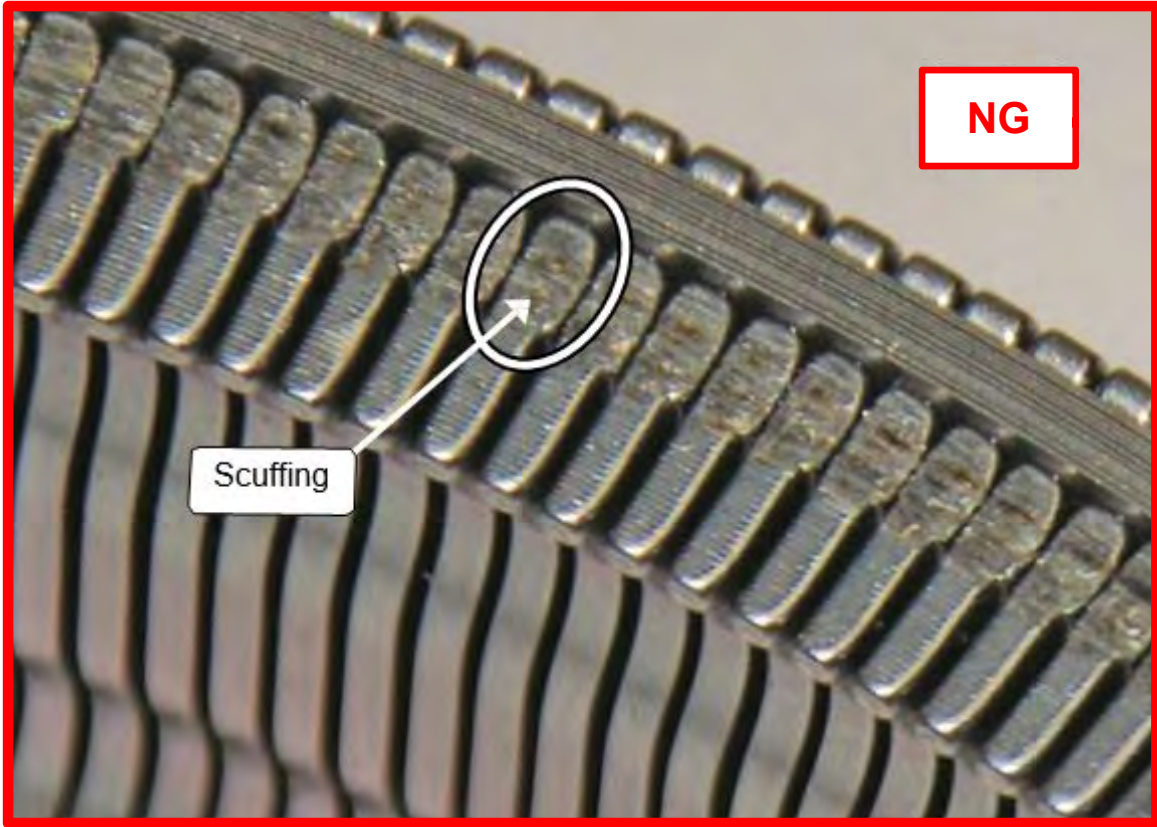

Figure 44
- If evidence of belt slip is identified as shown in Figure 44 through Figure 48 on pages 28-29, skip to step 26 on page 33.
- If the belt does not move when rotating the driver side (LH) front wheel, return to step 18b on page 20.
- ii. Look for evidence of belt slip as shown in Figure 44 through Figure 48 on pages 28 - 29.